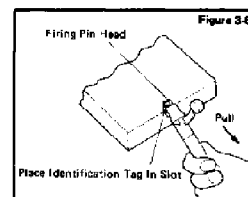

Figure 3-6
3. Place sear notch, on firing pin head, against a hard surface and pull downward on bolt handle, compressing the spring. (See Figure 3-6).